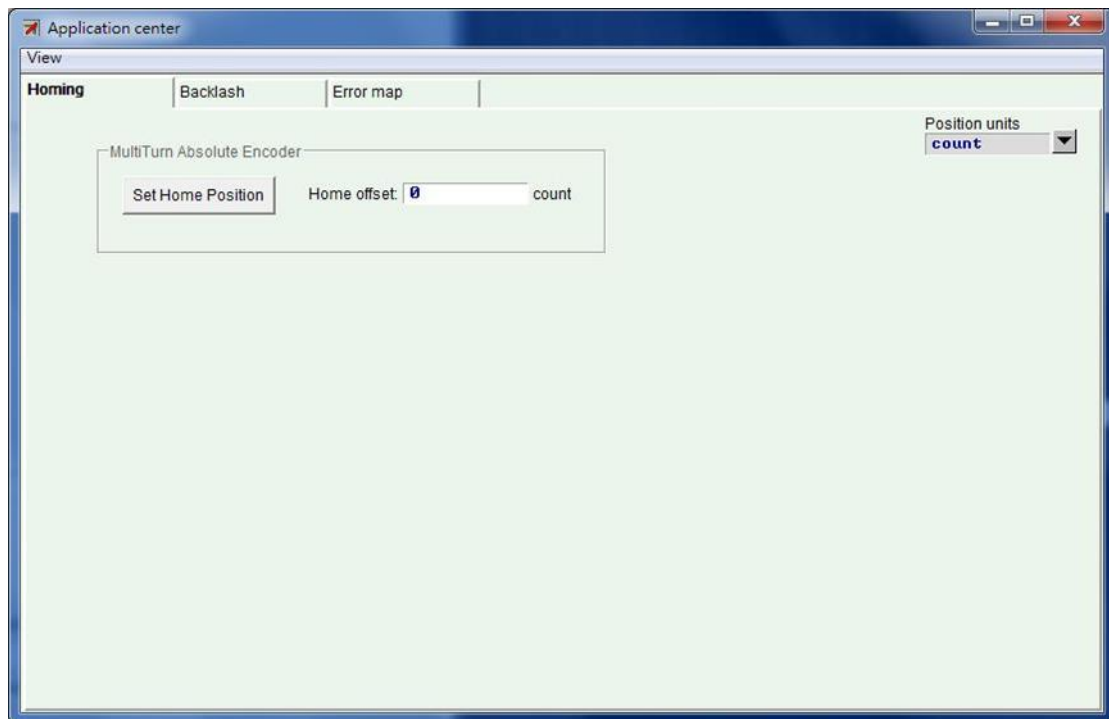
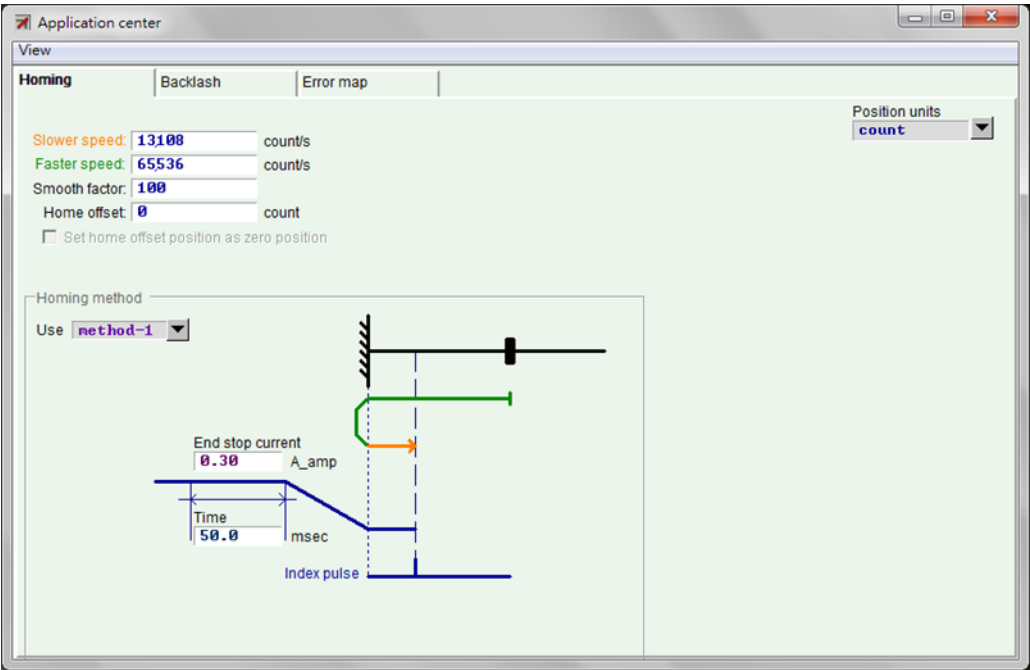

Figure5.7.3.1
Figure5.7.4.1
- (1) The emulated encoder output is temporarily disabled during saving. Therefore, if the host controller is connected to the emulated encoder output, the received position information may be lost. Please pay attention to this.
- (2) Compensation values of “Error map” will not be saved via this function. Perform the “Save” procedure in the “Error map” window to save compensation values.
In the “Tools” menu of HMI main window, select “Set parameters to factory default” to restore drive's parameters to factory settings, as shown in figure 5.7.3.1. Then, the window of figure 5.7.4.1 (for versions of Lightning 0.180 - 0.185A) appears to ask if users want to set the drive to factory default. If the error stable is needed to be cleared at the same time, check the option of “Clear error table in flash then reset drive”, and click the “Yes” button to automatically execute this function. When the option of “Clear error table in flash then reset drive” is checked, the program will display the “Notice” window to inform users that it will save default settings to the drive and then reset the drive before clearing “Error map”, as shown in figure 5.8.2.1. If the “Yes (Y)” button is clicked, the program executes the chosen function in the window of “Set parameters to factory default”. However, if the “No (N)” button is clicked, it will go back to the window of “Set parameters to factory default” to let users reselect functions needed to execute. After parameters are restored to factory settings, the drive will automatically execute the reset function.